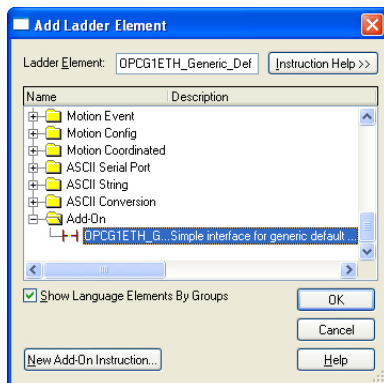

Figure 86: Add Generic Default Add-On Instruction
- 8) Select the generic default I/O add-on instruction in the Add-On folder. Refer to Figure 86.